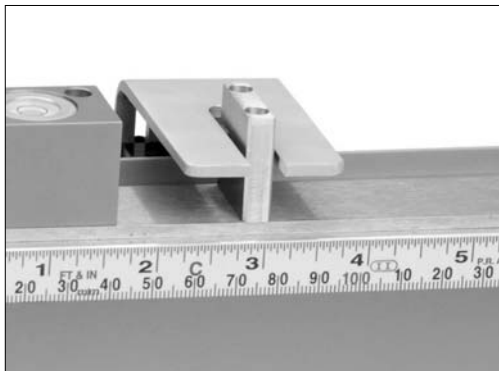

Figure 3
2. Place the specimen slide assembly on the top of the horizontal platform. If your instrument includes the hand crank, ensure the specimen slide assembly is aligned within the slide plate (see Figure 3).
5. Place the specimen slide assembly on the specimen, taking care not to change the position of the specimen. If using the optional hand crank feature, the specimen slide assembly must be positioned within the slide plate (see Figure 3).